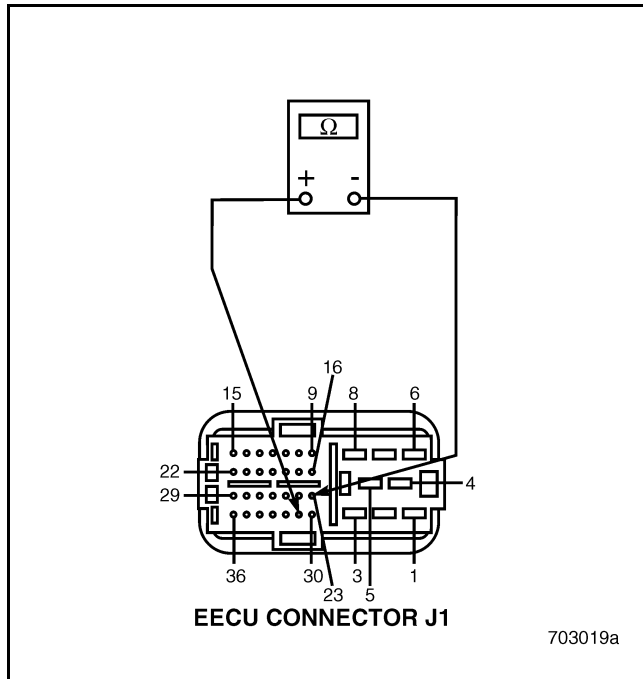

Figure 595
3. Measure the resistance between EECU connector J1 pin 23 and EECU connector J1 pin 31 (see Figure 595).